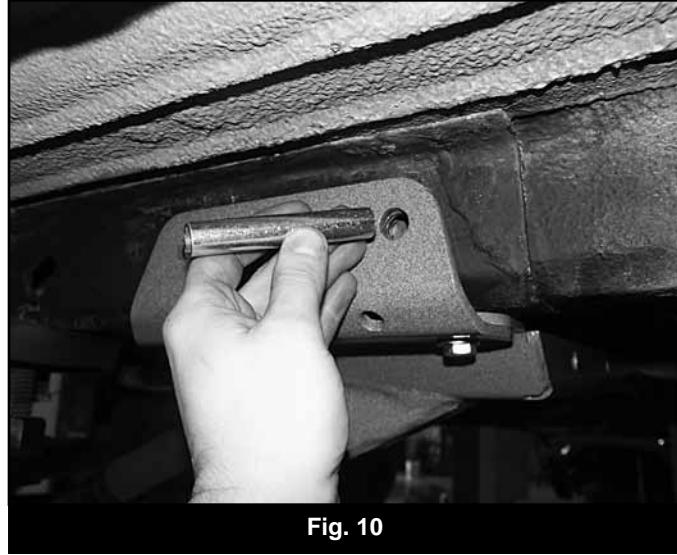

Fig. 10
24. Insert the provided 5/8" x 3-5/8" frame crush sleeve (22-1) in the 5/8" hole just drilled in the frame (Fig 10). Do not push it all the way in at this time.